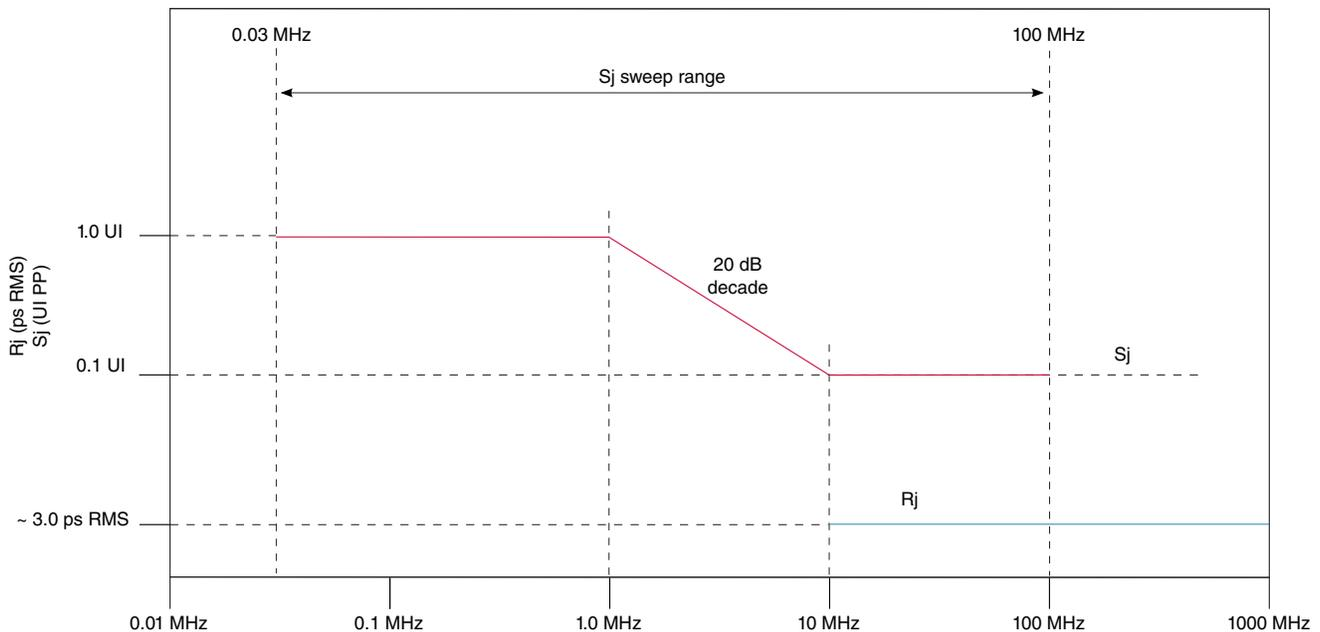

Figure 37. Swept sinusoidal jitter mask
- The sinusoidal jitter in the total jitter tolerance may have any amplitude and frequency as shown in Figure 37.
- Random jitter (Rj) is applied over the following range: The low frequency limit may be between 1.5 and 10 MHz, and the upper limit is 1.0 GHz. See Figure 37 for details. Rj may be adjusted to meet the 0.3 UI value for $T_{RX-SV-8G}$.